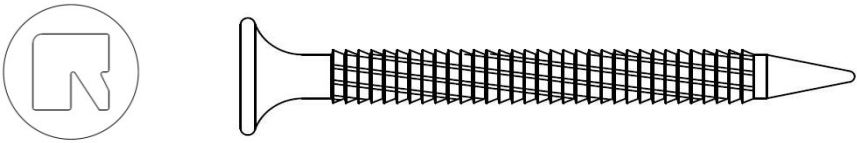

FIGURE 1—GYP-FAST™ FASTENER
The fasteners are power-actuated fasteners formed from steel wire complying with ASTM A510 Grade 1060, heat-treated to a Rockwell C hardness of 44 to 48. The fastener is zinc-plated with a polymer finish, and has a tapered point with an annular thread and helical grooves on the shank. The fastener is 1½ inches (38.1 mm) long, has a 0.140-inch (3.6 mm) knurled diameter [0.120-inch (3.0 mm) shank diameter], and has a 0.32-inch-diameter (8.1 mm) bugle head. The fasteners are available in 150-count collated coils. See Figure 1 for an image of the fastener.
7.1 Cartons of GYP-FAST™ fasteners must be labeled with the ITW Ramset name and address, the product name (GYP-FAST™) and the evaluation report number (ESR-2174). The head of each fastener bears the symbol shown in Figure 1.